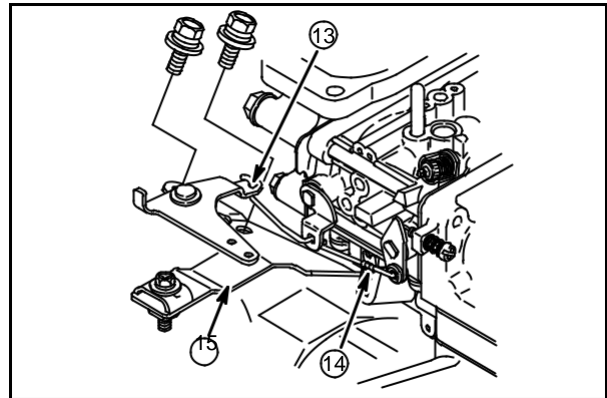

Fig. 35
Connect governor link (14) to throttle lever and snap retainer over link, **Fig. 35**.